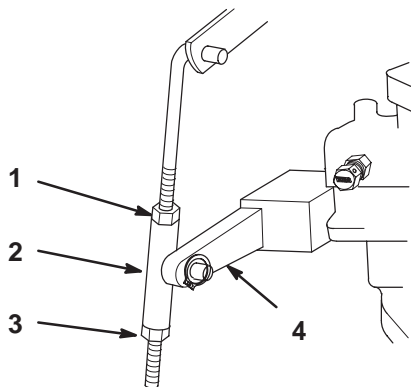

Figure 36
4. Loosen top and bottom jam nuts at pump arm neutral adjustment sleeve (Fig. 36).
5. Push down on Pump Arm until Sleeve contacts bottom nut (Fig. 36). Wheel should now be rotating slowly in reverse.
6. Turn bottom nut up slowly, moving sleeve and pump arm up, until wheel stops rotating (Fig. 36).
7. Turn top nut down against sleeve and tighten to lock the adjustment (Fig. 36).